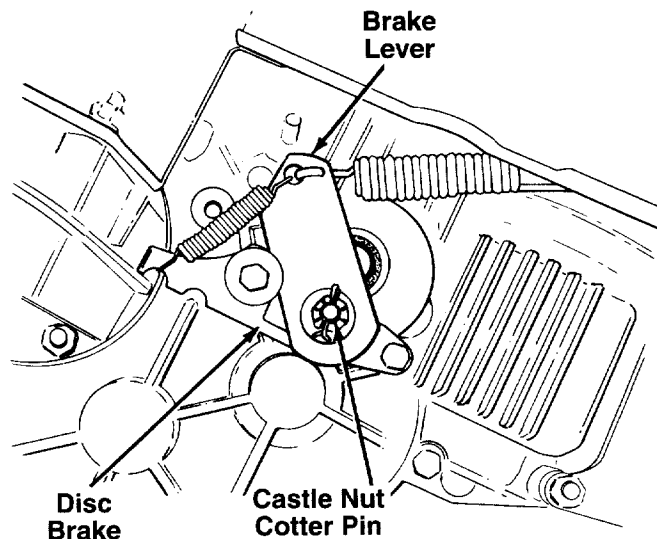

FIGURE 17.
### BRAKE ADJUSTMENT (See figure 17)
**NOTE:** Figure 17 is shown with the unit tipped up on rear wheels for clarity only.